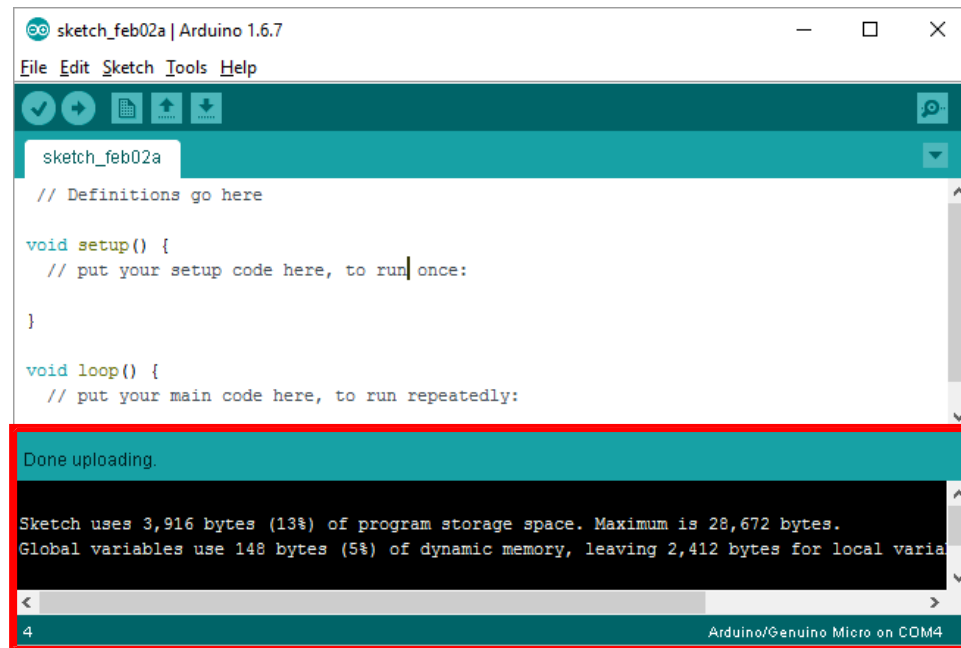

Figure 8. Arduino sketch after uploading.
- 5 Upload your code to the Arduino. Select the **Upload** icon to upload. If successfully uploaded (see Figure 8), you will know the computer can communicate with the Arduino!